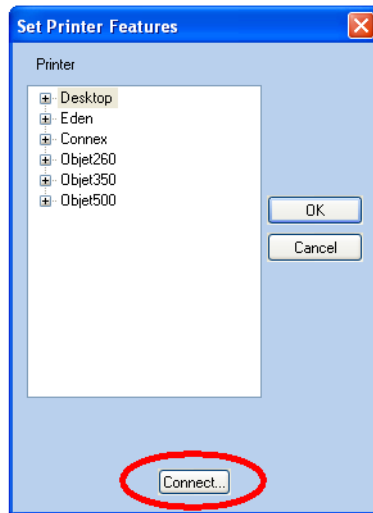

Figure 5-106: Connecting to a printer (A)
2. In the *Set Printer* dialog box, click **Connect** (see figure 5-106).